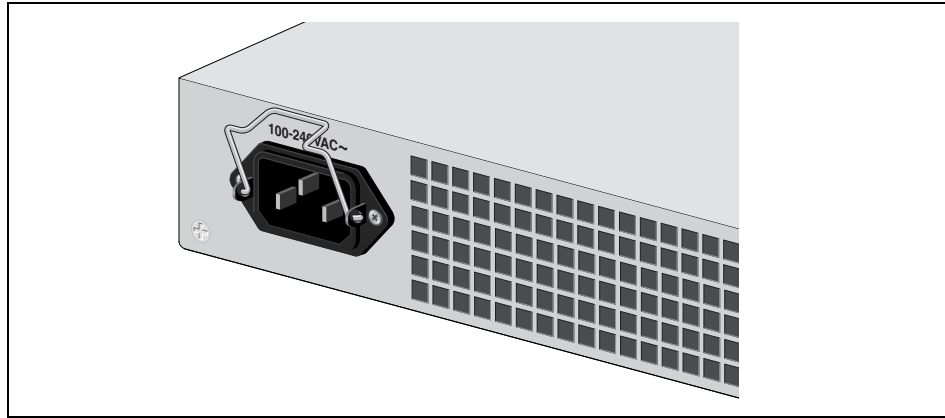

Figure 38. Power Cord Retaining Clip in the Up Position
1. Position the power cord retaining clip in the up position, as shown in Figure 38.